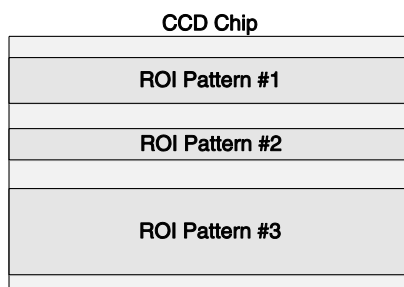

Figure 127. Multiple Full-width ROIs
1. ROIs cannot overlap. This places restrictions on the Slit (Y) values that can be specified. For example, if Pattern 1 has a Slit Start value of 1 and a Slit Height 100, the Start value for the next ROI must be greater than 100. *If a Full pattern is selected and stored, it overlaps all others, causing all data collections to be full-chip.* Figure 127 illustrates multiple full-width ROIs.
Note: In Spectroscopy mode, ROIs created via the mouse are limited to full chip width like the ones depicted in Figure 127. This is not the case in Imaging mode.